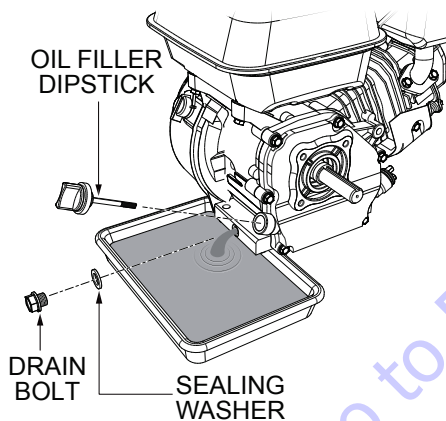

Figure 38. Draining Engine Oil
- Remove the drain bolt and sealing washer, and allow the oil to drain into a suitable container (Figure 38).